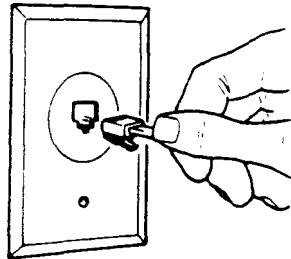

Figure 4
16. Connect the other end of the Telephone Cable to the Customers Telephone outlet Jack on the wall Figure 4.